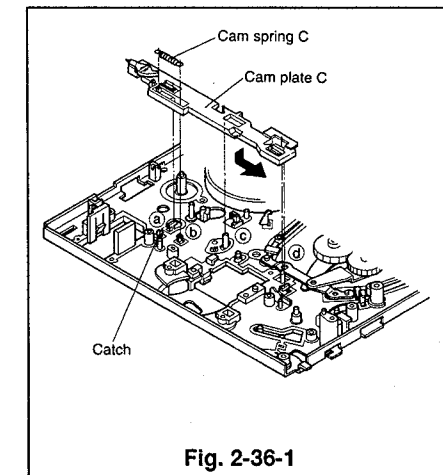

Fig. 2-36-1
- ① Remove the reel belt and the belt pulley. (Refer to Para. 2-28 for the removal method.)
- ② Remove the reel idler assembly. (Refer to Para. 2-35 for the removal method.)
- ③ Remove the loading motor assembly (which holds the motor holder). (Refer to Para. 2-29 for the removal method.)
- ④ Remove the main gear-J. (Refer to Para. 2-30 for the removal method.)
- ⑤ Remove the plate-J, the roller-B, and the cam plate-B. (Refer to Para. 2-33 for the removal method.)
- ⑥ Remove the cam spring-C. (Refer to Fig. 2-36-1.)
- ⑦ Slide the cam plate-C to the left end.
- ⑧ Unfasten the catch and raise the cam plate-C to remove it. (refer to Fig. 2-36-1.)